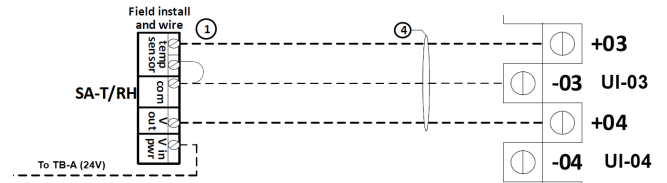

**Fig. 72 — SAT/RH Configuration**
- Verify that the sensor is set to provide a voltage output and the output voltage is set for 10V. See Fig. 72.